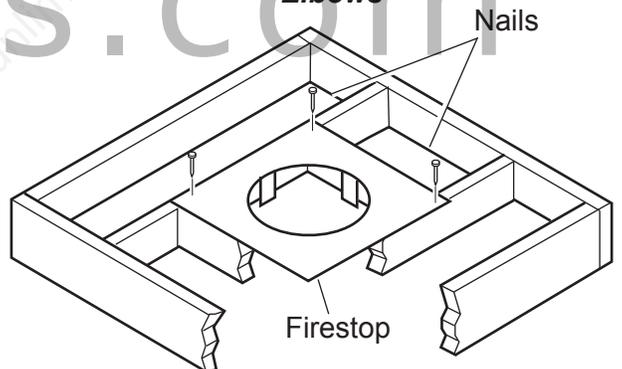
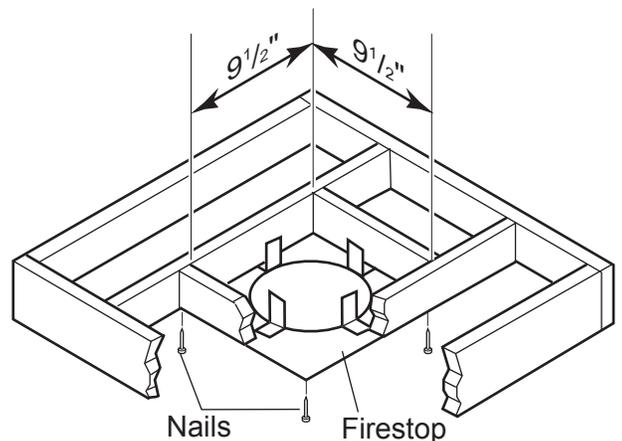

Figure 19 - If area above is a room, install firestop above framed hole as shown
Figure 20 - If area above is not a room, install firestop below framed hole as shown
1. Cut a 9 $\frac{1}{2}$ " (241mm) square hole in the ceiling using the locating hole as a center point The opening should be framed to 9 $\frac{1}{2}$ "x9 $\frac{1}{2}$ " (241mm x 241mm) inside dimensions as shown in *Figure 20* using framing lumber the same size as the ceiling joist. If the area above the ceiling is an insulated ceiling or a room, nail firestop from the top side. This prevents loose insulation from falling into the required clearance space. See *Figure 19*. Otherwise, install firestop below the framed hole. The firestop should be installed with no less than three nails per side. See *Figure 20*.